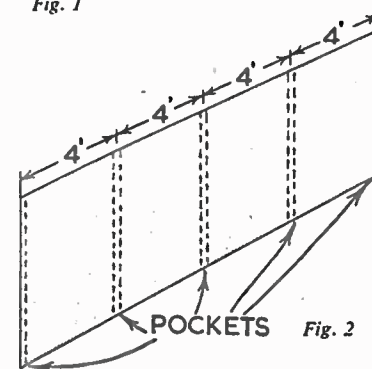

Fig. 2
a screw bolt of suitable size. The length of these bolts should not exceed ¾ in. or they prove difficult to get in position. First, in each leg, bore a hole through for the bolt to pass. The position of the hole is important, as the edge of the leg must butt up against the spring, as at (D), in Fig. 2, to prevent it shifting sideways. The distance given for the hole will, in most cases, be about correct, but it would be as well to test by laying the leg in position on the finger grip, and run-